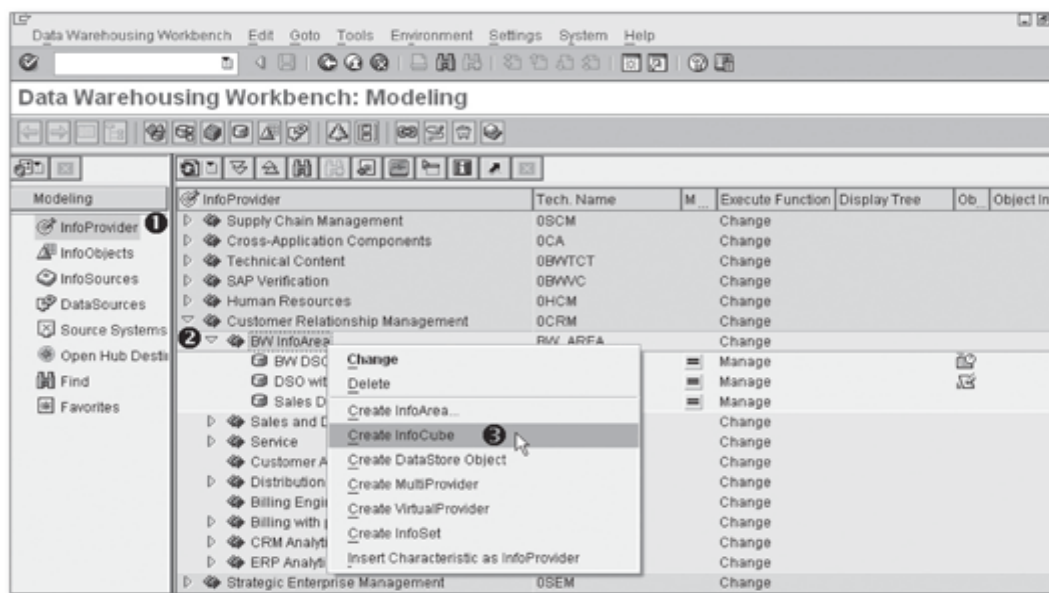

Figure 5.7 Create an InfoCube
InfoCubes are created in the Data Warehousing Workbench (DWW), which is started using Transaction RSA1. Select the InfoProvider under Modeling from the navigator section, as shown in ❶ of Figure 5.7.